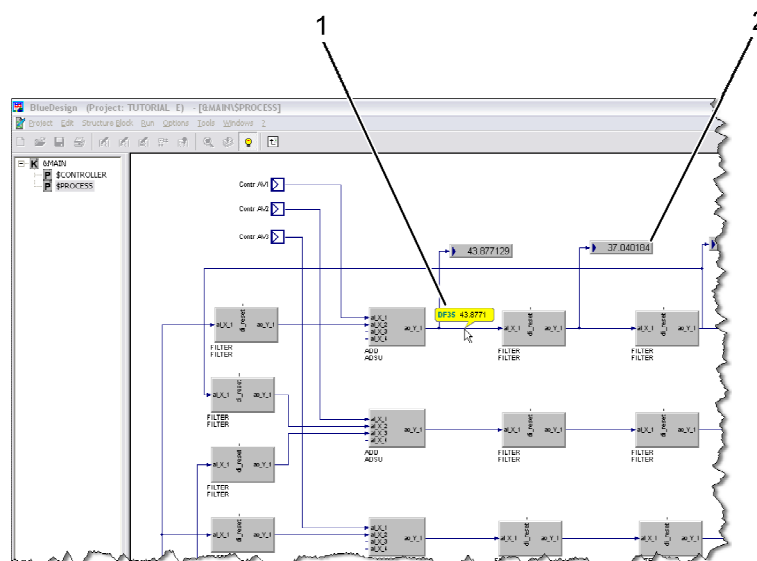

Fig. 115: Example: Online observation mode
- Online observation mode:** After loading and starting the program on a target system, the online observation mode is started automatically. In this mode it is possible to monitor and change the program flow. Debug blocks can be used to monitor the program flow, e.g. in order to display the current value of a signal (Fig. 115/2). In addition, clicking a connection displays its current value (Fig. 115/1). The program can be changed by writing values to the system online.